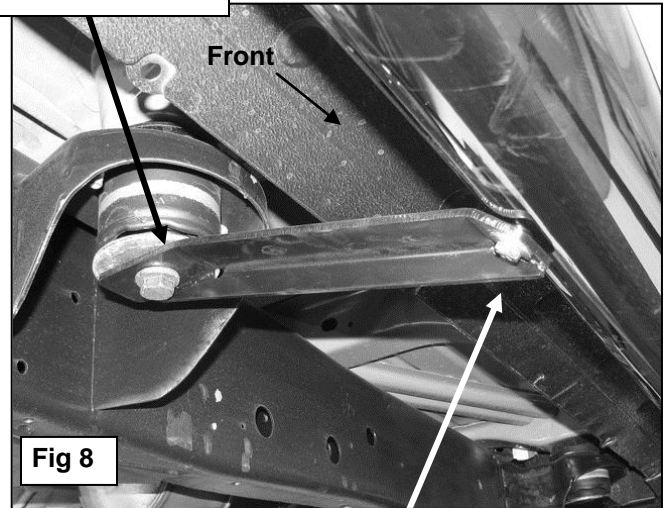

Fig 8
6. Attach the center Mounting Bracket to the Sidebar with the included (1) 8mm x 25mm Hex Bolt, (1) 8mm Lock Washer and (1) 8mm Flat Washer, **(Figure 8)**. Do not tighten hardware at this time.